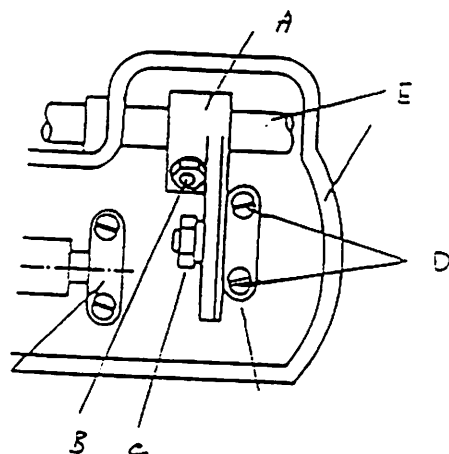

Fig.15
- b) The amount of travel of the puller (Fig 15)